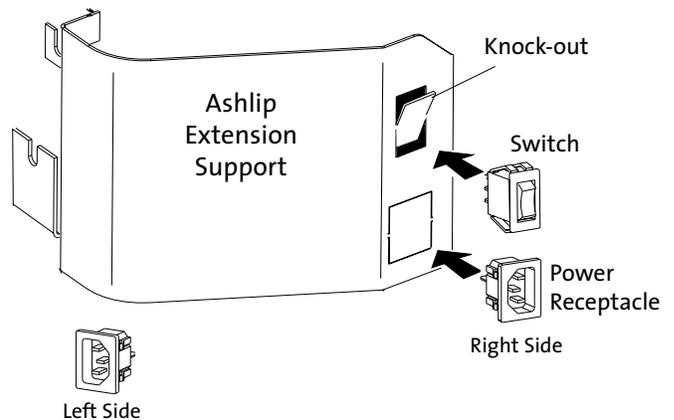

Figure 15. Remove knock-outs and install inserts. Note the difference in orientation for right and left side installation.
6. Insert the Control Switch and Power Receptacle: Use a flat head screwdriver and pliers to pry the knockouts from the appropriate ash lip support. Work from the inside, to avoid marring the outside surface. Note the orientation of the Power Cord Receptacle for left and right side installation. Insert the Power Switch in the upper hole, and the Power Cord Receptacle into the lower hole. See fig. 15.
When first starting or reviving the fire, the control lever should be set at the far right position to allow the maximum amount of air into the stove. See fig.15. After the fire is well-established, the lever should be set at position to moderate incoming air to maintain the desired long term heat output and/or burn time.